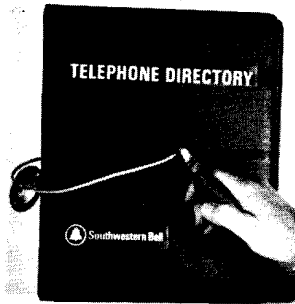

Figure 4
- (a) Place the cable in the jaws of the diagonal pliers, with the cutting edge against the insulation end, Figure 4. Apply pressure and cut the cable.